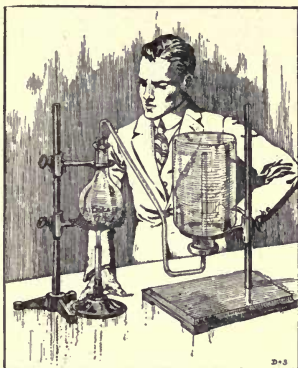

FIG. 113. Preparing and collecting ammonia.
**Exercise 7.** Heat in a flask a mixture of quicklime and ammonium chlorid and collect the ammonia that is given off by downward displacement of air (Fig. 113). Close the bottle with a stopper through which is passed a glass tube, and